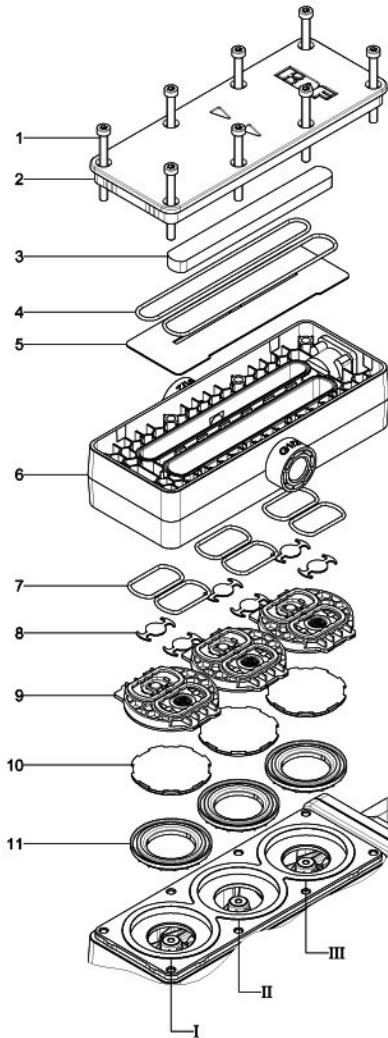

Figure 3: Head parts
1. Insert the three insert rings (11) in the pump housing; see Figure 3.
2. For easier installation of the diaphragms (10), turn the connecting rod to top dead center, beginning with head I. Tighten the diaphragms well (10) by hand. Repeat the steps for heads II and III.
3. For head II, press the middle diaphragm (10) to bottom dead center with your thumb.
4. Place the head plate (2) according to Figure .
5. Insert the resonating diaphragm support (3) and the two O-rings (4) into the head plate (2).
6. Place the resonating diaphragm (5) on the head plate (2) according to Figure . Make sure that the cut-out in the resonating diaphragm (5) and the cams in the head plate (2) are positioned correctly.
7. Insert the six O-rings (7) and anchor valves (8) in the connecting plate (6) according to Figure .
8. Click the three intermediate plates (9) into the connecting plate (6).
9. Place the connecting plate (6) on the head plate (2).
11. Insert the eight head screws (1) in the head plate (2), but tighten them only slightly for now.